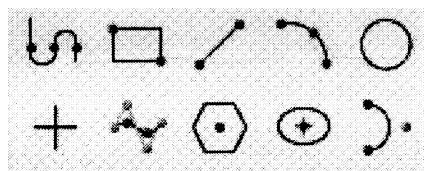

Fig. 1: Direct sketch group
- (1) Explain any four tools of direct sketch group from fig. 1. **7**